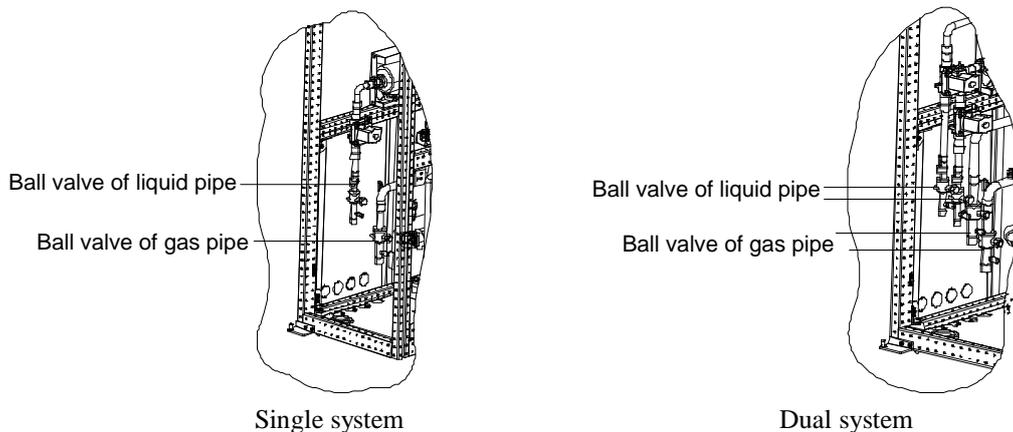

Figure 3-12 Locations of discharge pipe and ball valve in liquid pipe
2. Connect the copper pipes in welding mode. The connection ball valves of the discharge pipe and liquid pipe of indoor unit are shown in Figure 3-12. Many notes and instruction labels are pasted onto the base and side panel close to the ball valve. Note that the ball valve must be wrapped with a wet cloth before welding to protect the label from burned during the welding operation.